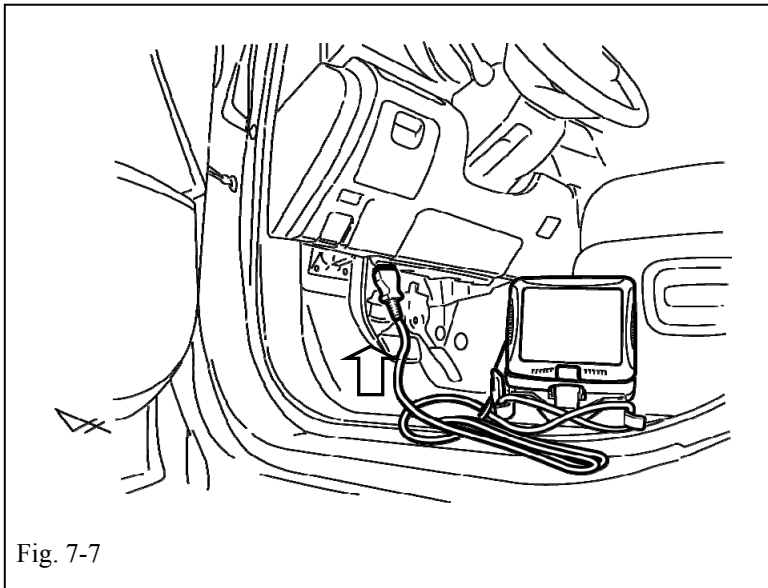

Fig. 7-7
- (j) Connect the Techstream Notebook to the Vehicle's Diagnostic Port. (Fig. 7-7)